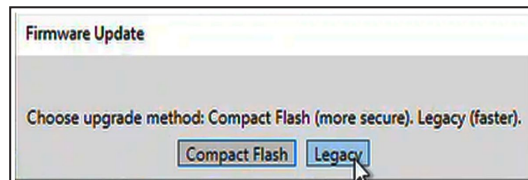
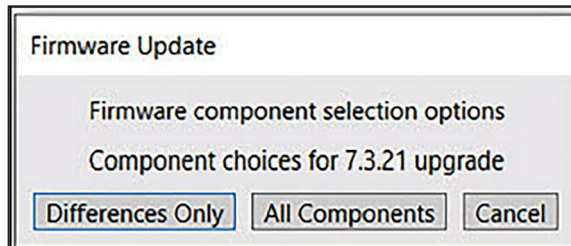

Figure 43. The Firmware Update dialog box for the SDA-4540R2 control.
Figure 44. The Firmware Update dialog box upgrade method choice for the SDA-4540R3 control.
STEP 15. The Firmware Update dialog box will prompt for selection of the upgrade or downgrade method. Click on one of the options to proceed. See Figure 43 for the SDA-4540R2 control options and Figure 44 for the SDA-4540R3 options.